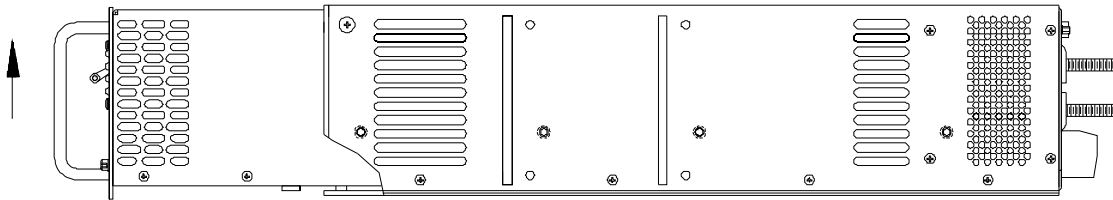

FIGURE 4. MODULE INSERTION, STEP C
- C. Once the module has been inserted approximately 1 inch, apply a slight upward pressure at the handle, allowing the module to slide against the inside of the rack adapter cover (see Figure 4).